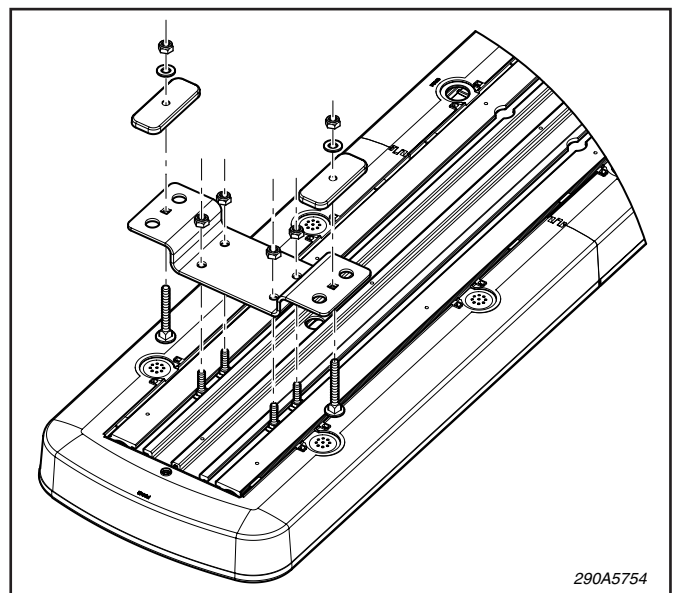

Figure 3.
D. Drill four (4) 9/32" holes at the previously scribed drill position marks.
E. See figure 3. Turn the light assembly over so that the bottom faces up. The unit should be placed on soft rags or cardboard to avoid marring the plastic